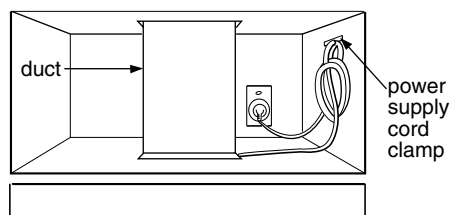

Figure 32
7. Use power supply cord clamp to bundle the power supply cord. Install the power supply cord clamp, using a screw as shown in Figure 32, to inside of the cabinet.